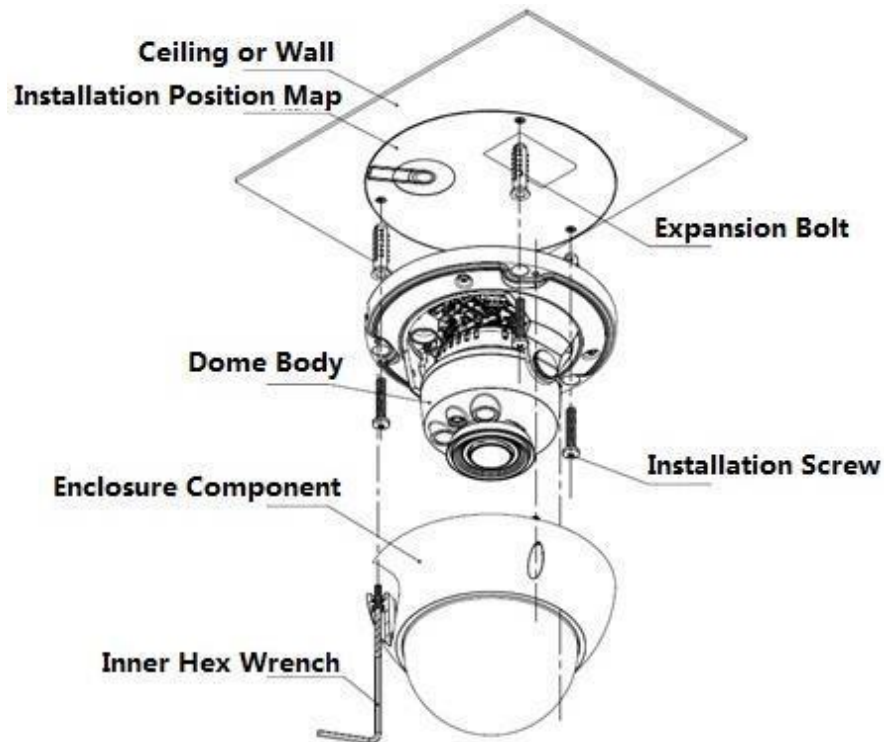

Figure 2-2 Motorized Vari-focal Camera
- Long press the “Reset” button shown in Figure 2-2 for 10 seconds when the device is power on if the device needs to be restored to factory default setting.